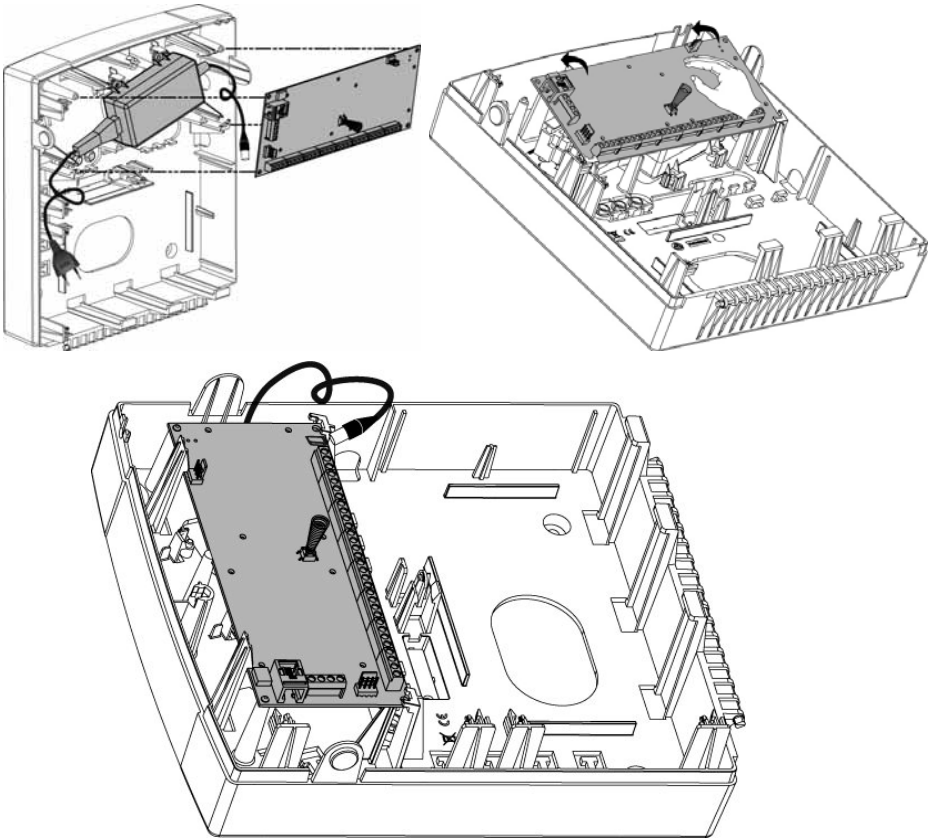

Figure 2-4 Placing the main panel
2. Place the main panel on its four mounting brackets and secure it, as per Figure 2-4